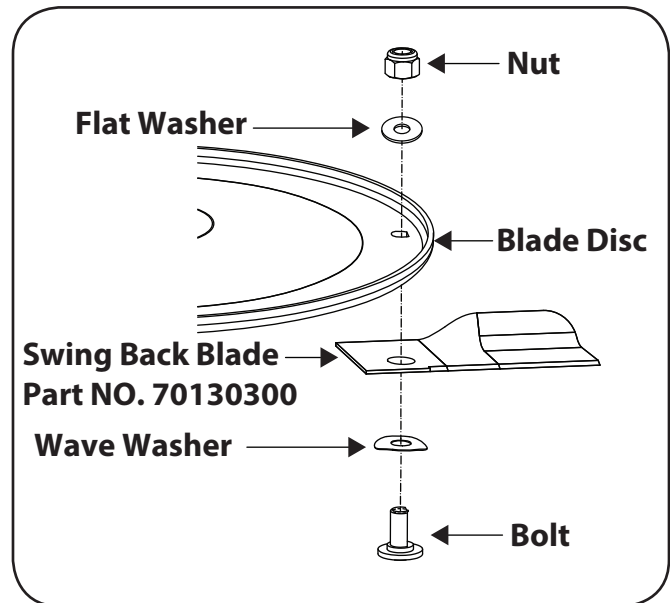

Figure 7-2
- c. Attach the new swing blades with a new hardware kit for each, following the assembly instructions shown in Fig. 7-2.